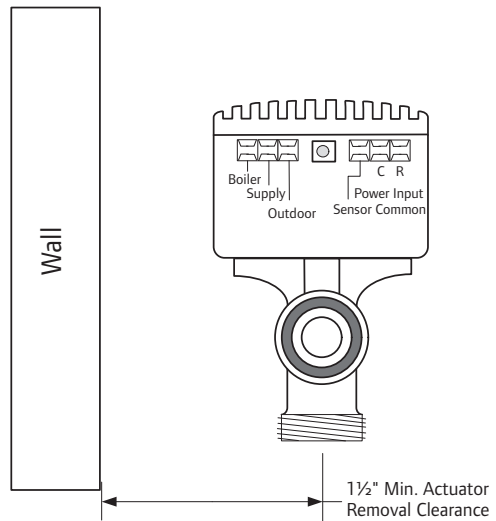

Figure 4: Acceptable Clearance from a Wall
2. Before installing the valve body, refer to **Figure 4** and the Dimensions section on **page 14** for clearances.